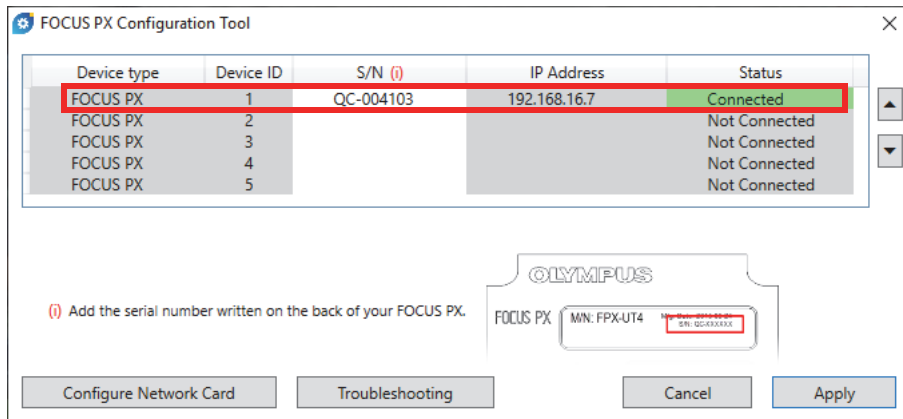

Figure 1-19 FOCUS PX Configuration Tool (1 device)
5. In the FOCUS PX Configuration Tool dialog box, type the serial number of the first master FOCUS PX unit that is connected to the Ethernet card (Figure 1-19 on page 37).